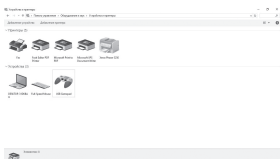
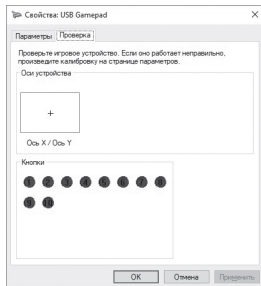

Fig. 3
Fig. 5
- Connect the manipulator with a USB cable to an available USB port (C) on the computer.
- In order to test and configure the gamepad, choose «Control Panel» → «Devices and Printers», in the Windows control panel (gamepad is displayed as «USB Gamepad»), then right-click on the device icon and select «Game Device Settings» (administrator rights may be required) (Fig.3,4). The «Game devices» window will appear. You must select «Properties» (will flash the «Properties: USB Gamepad» window). In the «Check» tab, you can check the execution of commands when you press the buttons (Fig.5). To calibrate the joystick, select the «Settings» tab, click «Calibrate» and follow the instructions.